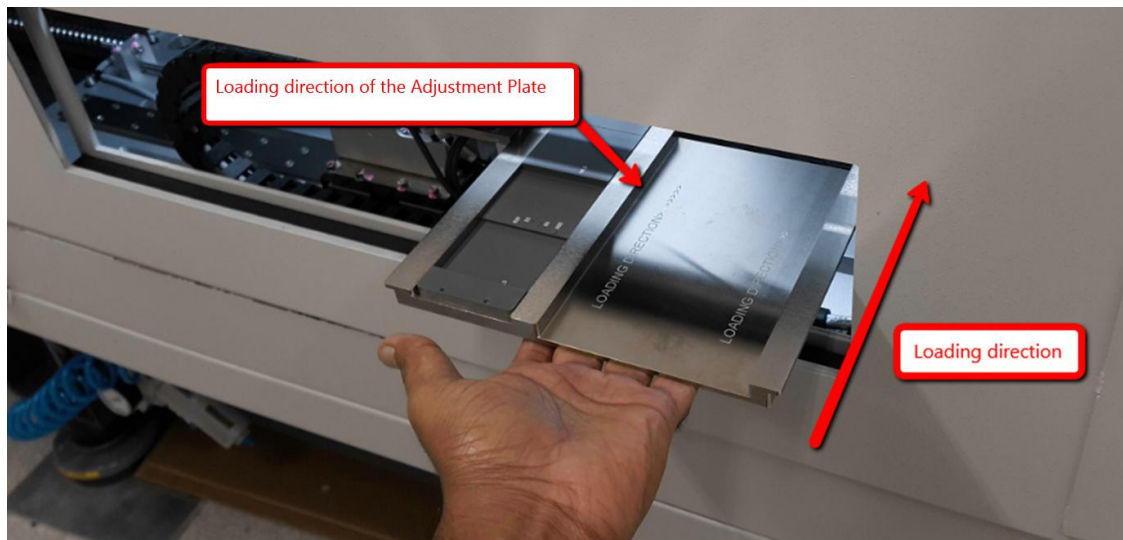

Figure 44 Jig loading
31. Insert the jig once the left outer barrier open as shown in the Figure 44.